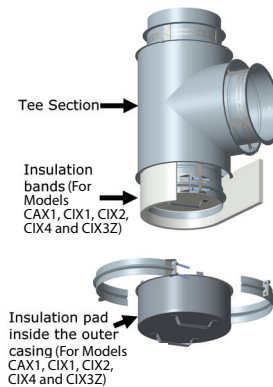

Figure 33c: Tee Cap insulated casing Step 3 and 4
- 4 - Wrap the insulation band around the inner wall of the Tee, up to the spacer/brackets inside the Tee. See Figure 33c.